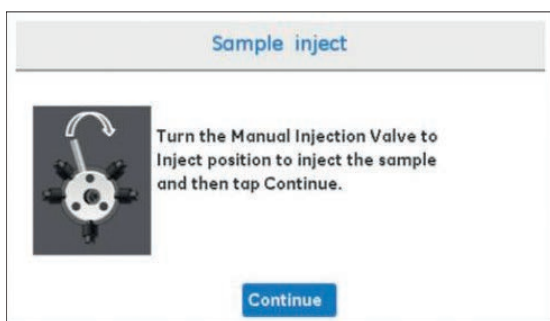

Fig 12. ÄKTA start display: Screenshot of **Sample inject** message screen.
- 1 When prompted on the screen (as depicted below in Fig. 12, on page 4), manually turn the injection valve to **INJECT** position.
- 2 After manually switching the position, acknowledge the message by tapping **Continue** (Fig. 12, on page 4). The sample is injected from the loop on to the column.